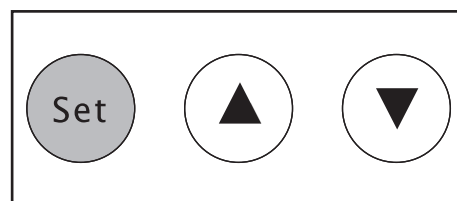

Fig. 1
9. Set the chiller to the desired temperature. Press and hold the set button (fig. 1) on the control pad for 5 seconds, until the display flashes displaying P and a 2 digit number. This is the temperature the chiller is set to. Use the up and down buttons to select the desired temperature. Once the correct temperature is displayed, press the set button again.